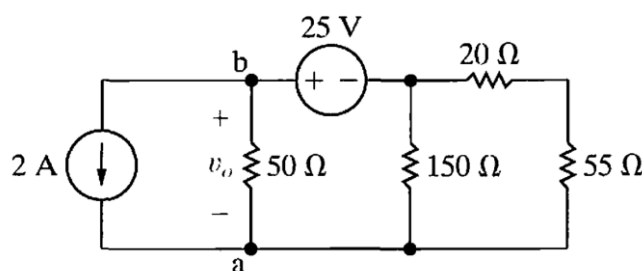

Fig 2
- A) Use the node-voltage method to find v_o and the power delivered by the 2A current source in the circuit in Fig 2. Use node a as the reference node.
- B) Repeat part (A), but use node b as the reference node.